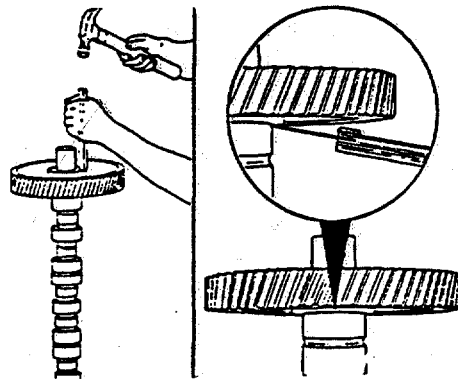

FIGURE 4-30. Seating the Gear and Checking Clearance.
- (6) Keep the camshaft in a vertical position with the gear up until the gear has cooled.
- (7) If the gear does not seat against the locating shoulder on the camshaft, use a brass drift and a hammer to drive the gear up against the shoulder (FIGURE 4-30) .
- (8) Use a feeler gauge to check the clearance between the camshaft gear and the shoulder. The clearance must not exceed 0.0050 inch (0.13 mm) (FIGURE 4-30) .
- (9) Apply a coat of Lubriplate to both sides of the thrust bearing.
- (10) Install the thrust bearing onto the camshaft.